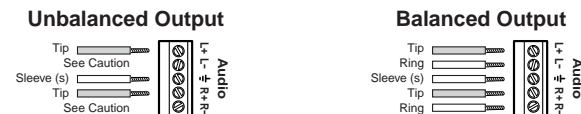

Figure 2-9 — Extender board audio connector wiring
- ⑩ **Audio output connection** — This 5-pole direct insertion terminal outputs unbalanced or balanced audio. Figure 2-9 shows how to wire the connector.